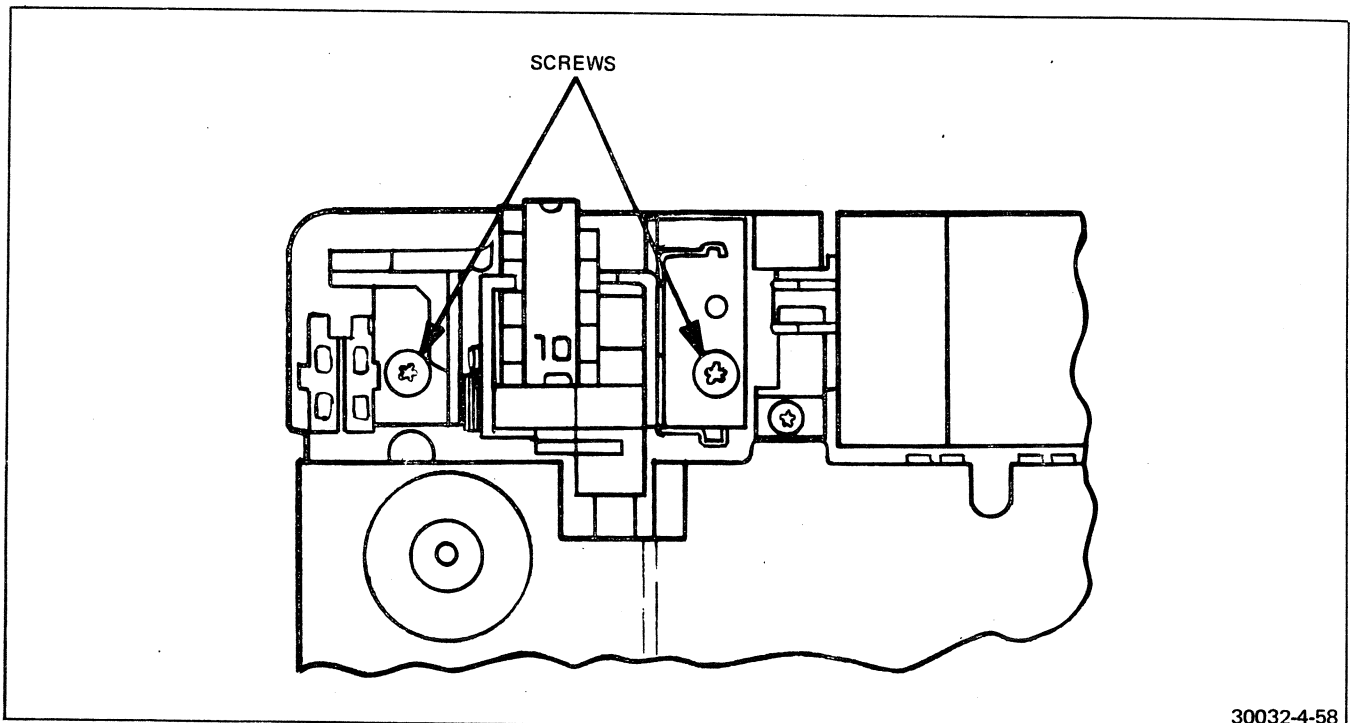

FIGURE 4-58 COUNTER BRACKET SCREWS
35. Remove the two screws which secure the counter assembly to the inner frame. See Figure 4-58.